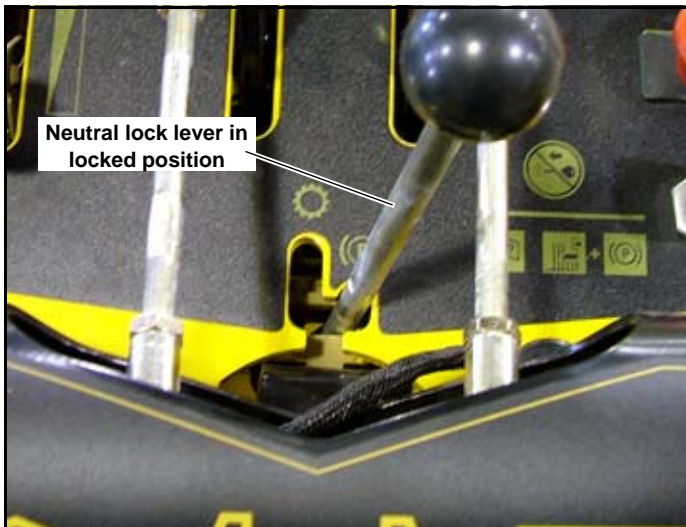

Fig. 3-4
1. Place the H-bar lever in the neutral position, move neutral lock/park brake lever to the park brake position (Fig. 3-4), and move deck clutch switch to the disengaged (down) position.
- A. Neutral lock/park brake lever is in the park brake position. Fig. 3-4